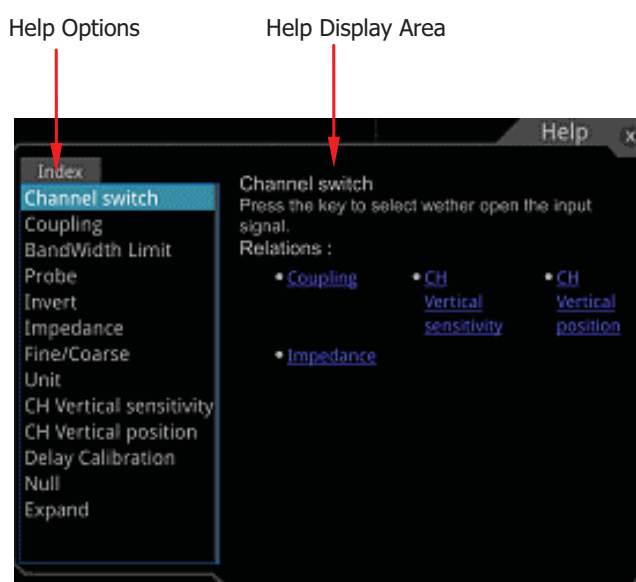

Figure 1-19 Help Information
2. Press **Help** on the front panel or tap the "Help" menu item, and then the help information is displayed on the screen, as shown in Figure 1-19. The help interface mainly consists of two sections. The left section lists "Help Options", and the right section is the "Help Display Area".